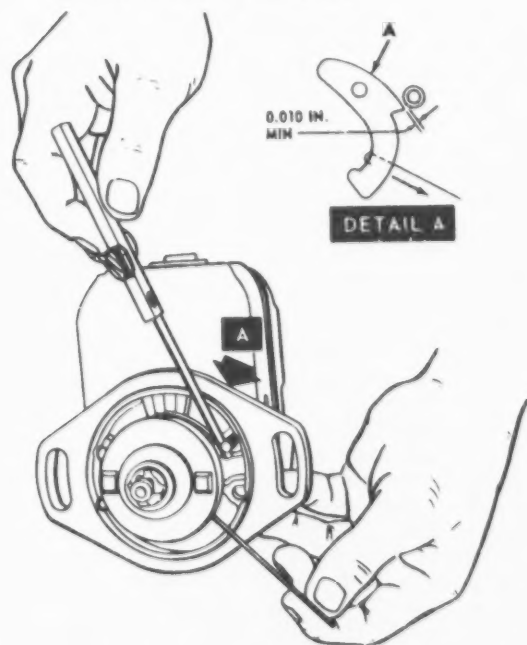

Figure 5-39. Checking flyweight clearance of impulse coupling
(b) Pull heel of flyweight outward with hooked wire. (See figure 5-39.)
A true accurate check of clearance between flyweights and stop pins can only be obtained by pulling flyweight outward as described above. Do not attempt check by pushing in on flyweight at position A of figure 5-39.
(13) Installation instructions are outlined in paragraph 5-167A, table 5-2, and figure 5-39.
(14) Only three (3) individual lead assemblies will be available for replacement of any of the twelve (12) leads installed.